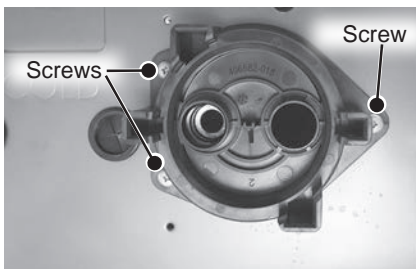

Figure 182 - Remove manifold screws
13 Locate the three (3) screws securing the cartridge manifold to the underside of the water heater cabinet as shown in Figure 182. Use a Phillips screwdriver to remove screws. Place screws aside in a safe place for reinstallation.
- 16** Locate the three (3) screws previously removed in **Step 13**. Use screws to secure cartridge manifold to water heater cabinet. See Figure 182.